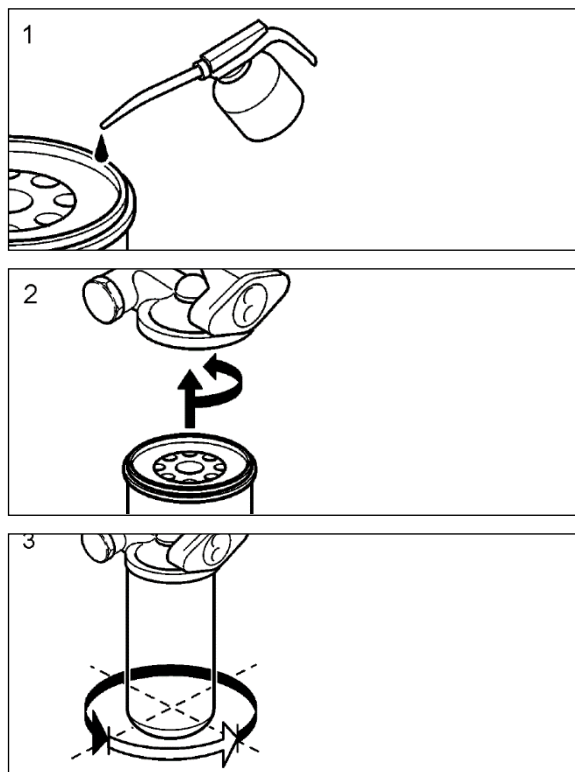

FIGURE 11: OIL FILTER REPLACEMENT
- Prefill the new oil filters with approved engine oil. Refer to Figure 11, also, lubricate the filter gaskets with engine oil (1). Hand tightens the oil filters until they contact the sealing surface of the oil filter housing (2). Manually tighten the oil filters an additional  $\frac{3}{4}$  to 1 full turn (3).